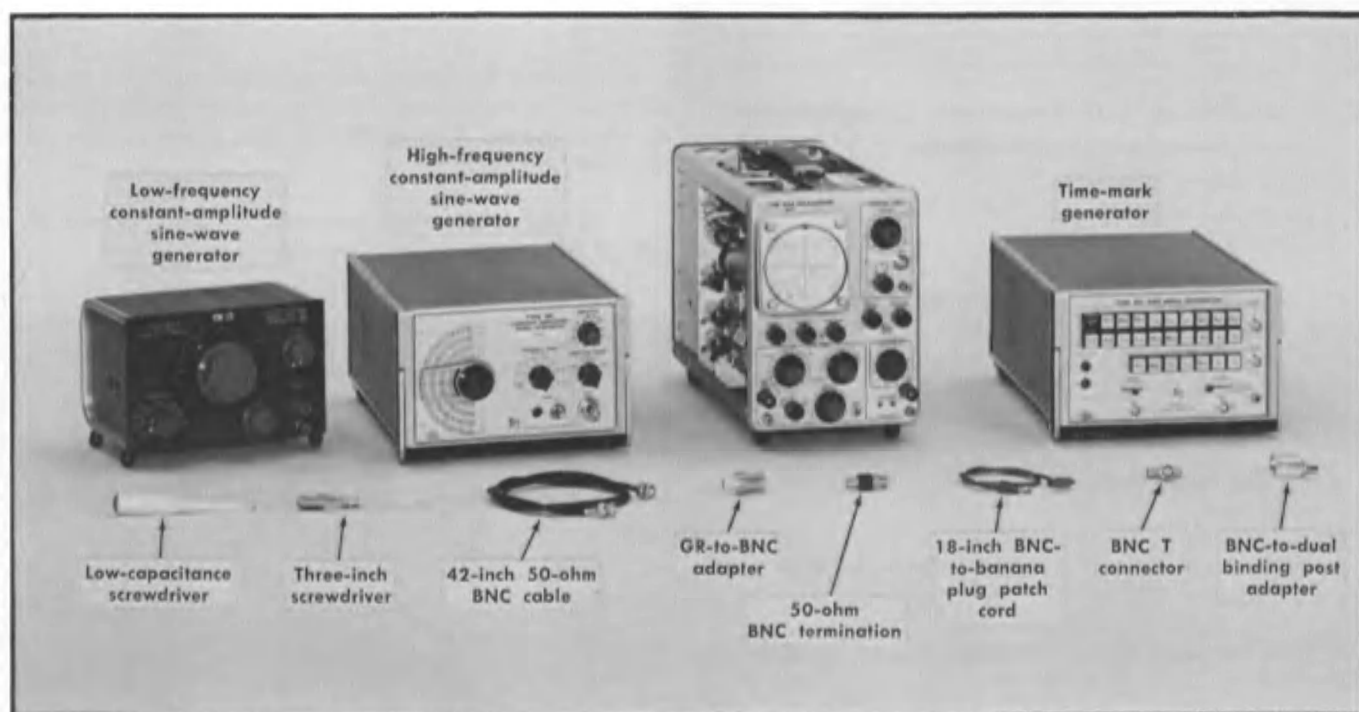

Fig. 5-15. Equipment required for steps 22 through 37.
- a. Equipment required for steps 22 through 37 is shown in Fig. 5-15.